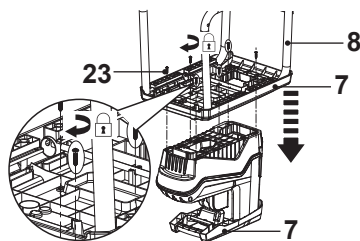

Fig. 2
2. Place the frame (8) upside-down and fit the base plate (7) on the motor unit, ensure the shape on motor unit match the one on base plate (Fig. 2, step 1).
3. Align the holes and secure the connection with the screws (x6) (23)(Fig. 2, step 2).